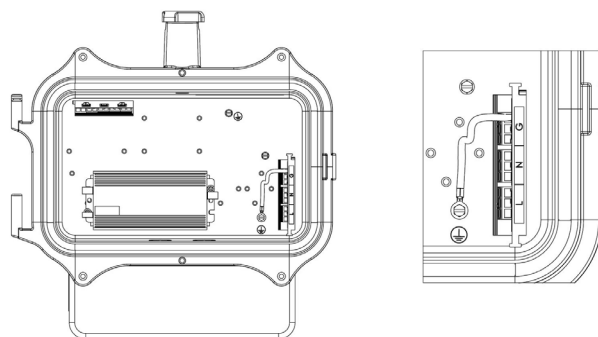

Figure 2
2. All components in the fixture are pre-wired so only input supply wires need to be connected in the fixture using the terminal block, using methods that comply with all applicable codes. Insert wires into terminal block by pressing down on tabs. Be sure wires are spaced as shown in Figure 2.